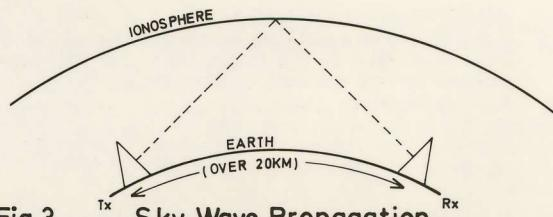

Fig.3    Sky Wave Propagation
- (b) Sky wave propagation: This is used for medium (20km-2000km) and long (over 2000km) distance propagation. The radio signals are 'bounced' off the ionosphere at an angle, thus reaching round the curvature of the earth (See Fig. 3).